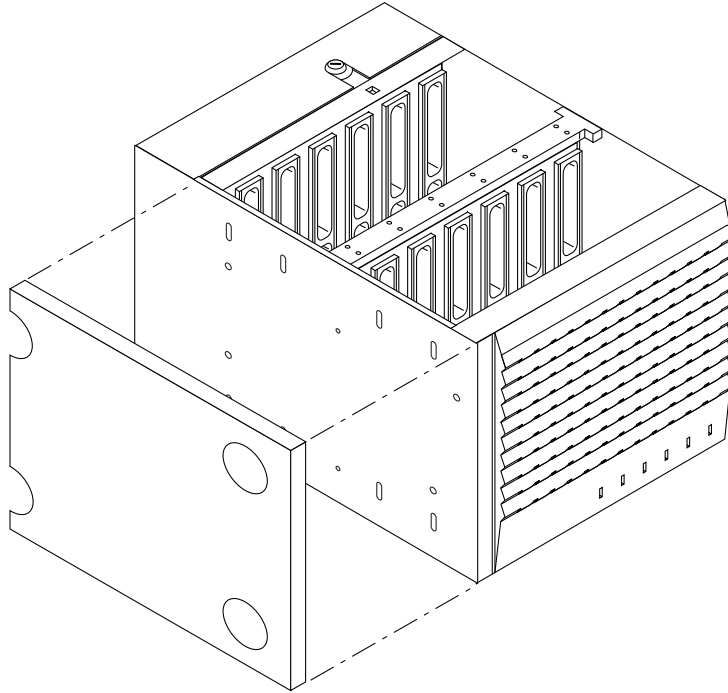

FIGURE 5-9 Removing and Replacing the Bottom Cover
- 2. Align the hooks on the bottom cover with the holes and tabs of the chassis (FIGURE 5-9).**